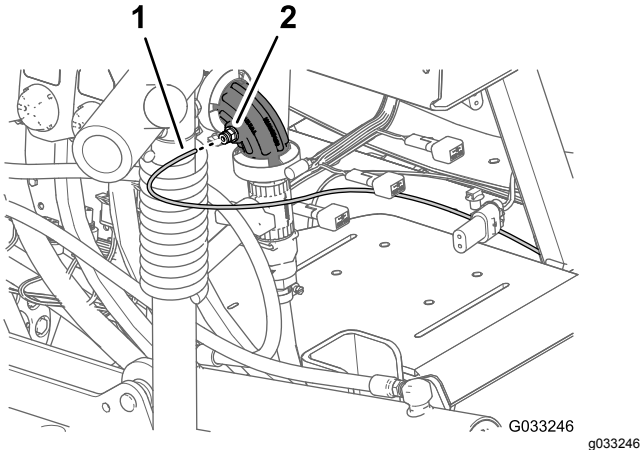
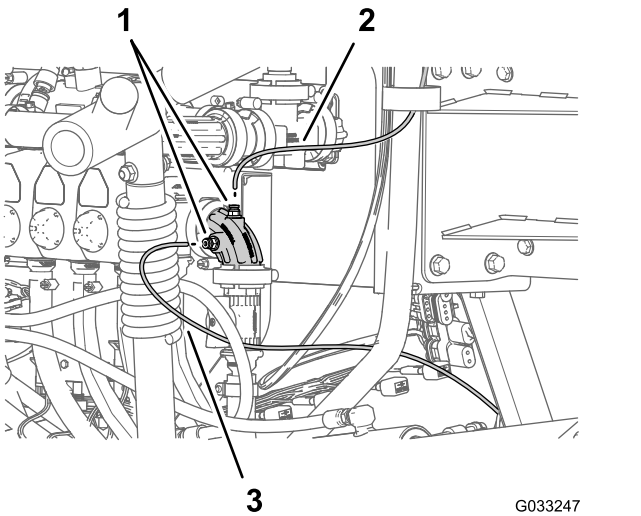

Figure 146
Figure 147
1. Align the end of the pressure-sense tube (plastic) for the pressure gauge in the dash with the locking collar for the tube coupler (Figure 146 and Figure 147).
2. Insert the sense tube into the locking collar until the tube fully seats (Figure 146 and Figure 147).